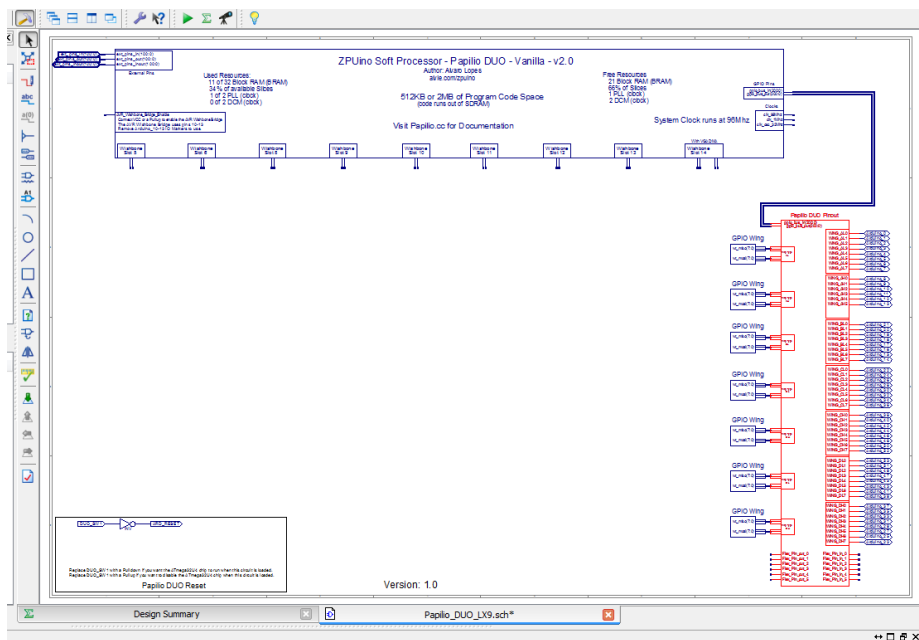

Figure 6-17 Beginning schematic with DUO pinout block
2. Next, we need to delete the Papilio DUO pinout block and replace it with the Papilio DUO Computing Shield pinout block. Be sure to delete all the GPIO blocks too, as you won't be needing those. You can find the symbol for the Computing Shield in the DesignLab\libraries\Papilio_Hardware library when you click the Add Symbol icon in the left toolbar. Figure 6-17 shows the starting schematic.